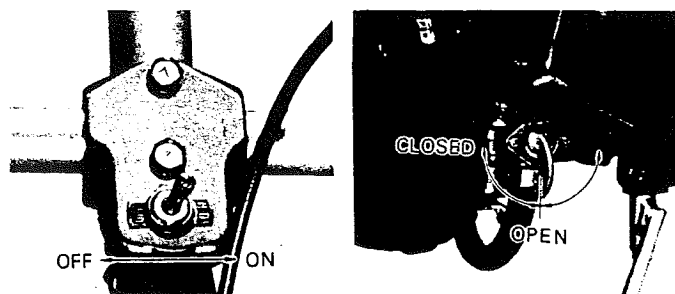

Figure 7
2. Open the fuel valve. The valve is open when in line with the fuel line and closed when 90° to it. Figure 7.
2. Set the toggle switch at "OFF". Figure 7.
3. After stopping the engine, IMMEDIATELY CLOSE THE FUEL COCK . . . shutting off the fuel supply from the tank to the engine. Figure 7.
5. To stop engine, move the toggle switch to the "OFF" position. Figure 7.